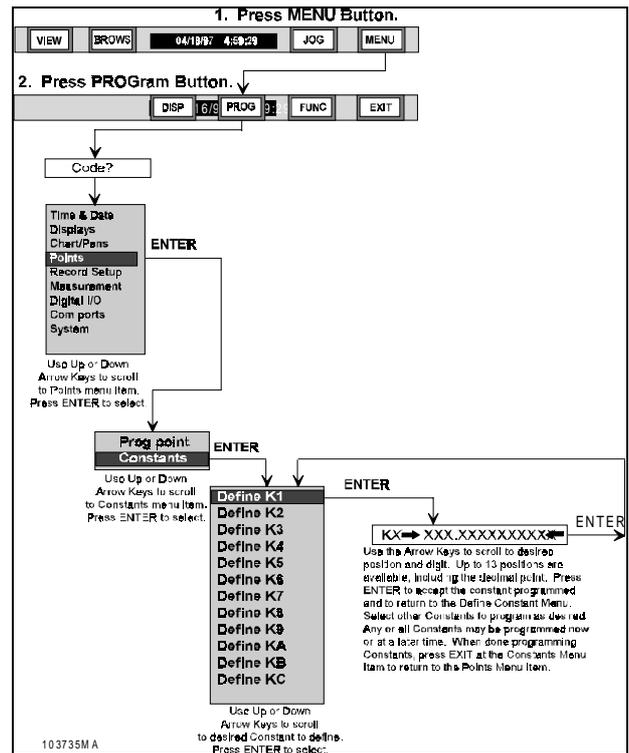

Figure 4-10 Program Constants Flow Chart
A. Programming Constants - The following steps and Figure 4-10 guide the user in programming Constants: